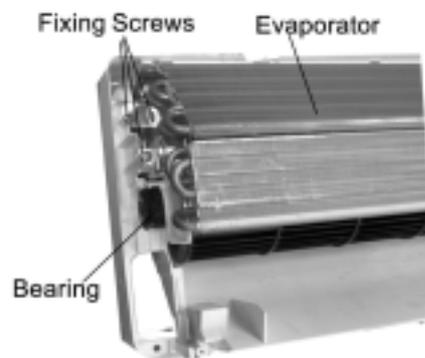

Fig 8
5. Release the bearing and the fixing screws on left side of the evaporator. (Fig 8)